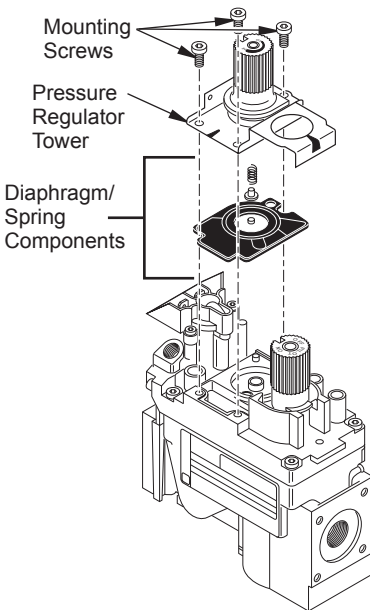

Figure 58 - Removing Mounting Screws, Regulator, Tower, and Diaphragm/Spring Components
1. Using a Torx T20 or slotted screwdriver, remove and discard the three mounting screws, pressure regulator tower, and diaphragm/spring components (see Figure 58).